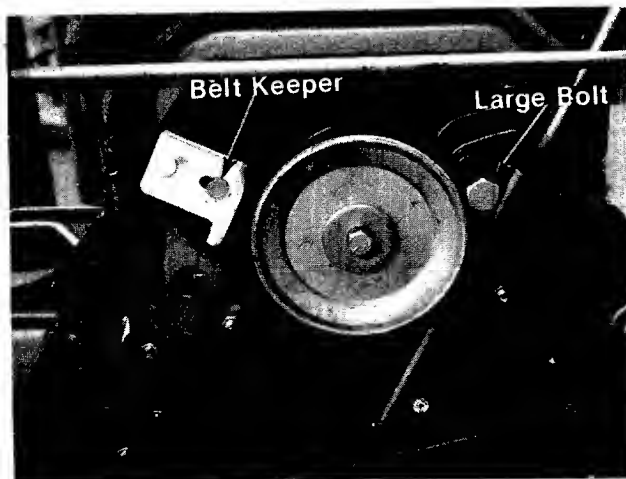

FIGURE 28.
2. Remove the belt keeper and large bolt on the engine pulley. See figure 28.
2. Remove the belt keeper and large bolt on engine pulley. See figure 28.